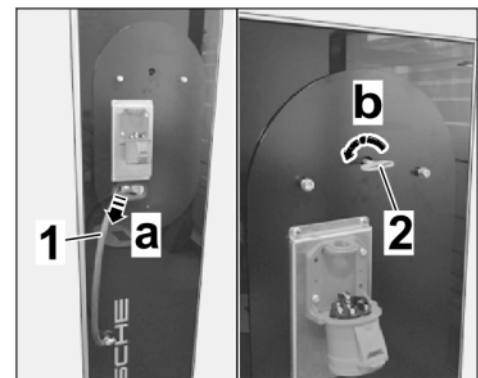

Figure 18
- 4.3 Guide cable ⇒ *Figure 18-1*- through the front ⇒ *Figure 18-a*-.
Press the key in against the resistance and turn it counter clockwise ⇒ *Figure 18-b*- (lock opens).